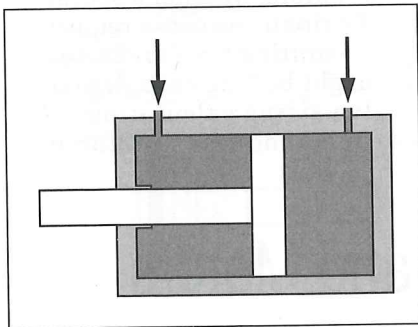

Fig. 9-19 — Fluid pressure can extend and retract the rod in double-acting cylinders.
**Double-acting cylinders.** Double-acting cylinders, Fig. 9-19, contain two fluid chambers so that pressure both extends and retracts the rod. This type of cylinder is by far the most common, and can be used in nearly all types of applications. Effective working area of the rod side of the piston is less than that of the other side, so double-acting cylinders retract faster than they extend, and exert less force on the retraction stroke.